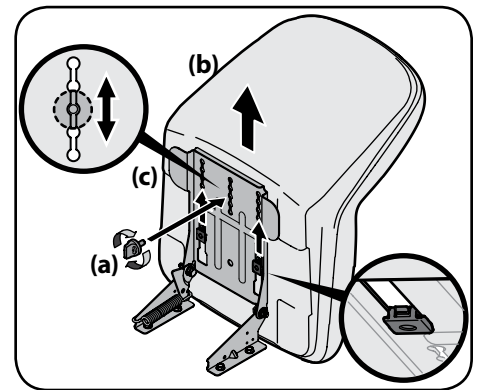

Figure 2-6
3. Slide the seat (b) rearward in the seat pivot bracket (c), lining up the center rear slot in the seat pivot bracket (c) with the remaining hole in the seat (b) base. See Figure 2-6.
NOTE: Be certain the two seat tabs engage the seat pivot bracket as shown in the bottom right inset of Figure 2-6.
4. Select the desired position for the seat (b), and secure with the adjustment knob (a) removed in Step 1. See Figure 2-6.
- To adjust the position of the seat, remove the adjustment knob (a) on the bottom of the seat (b). Slide the seat (b) forward or backward as desired. Reinstall the adjustment knob (a). See Figure 2-6.